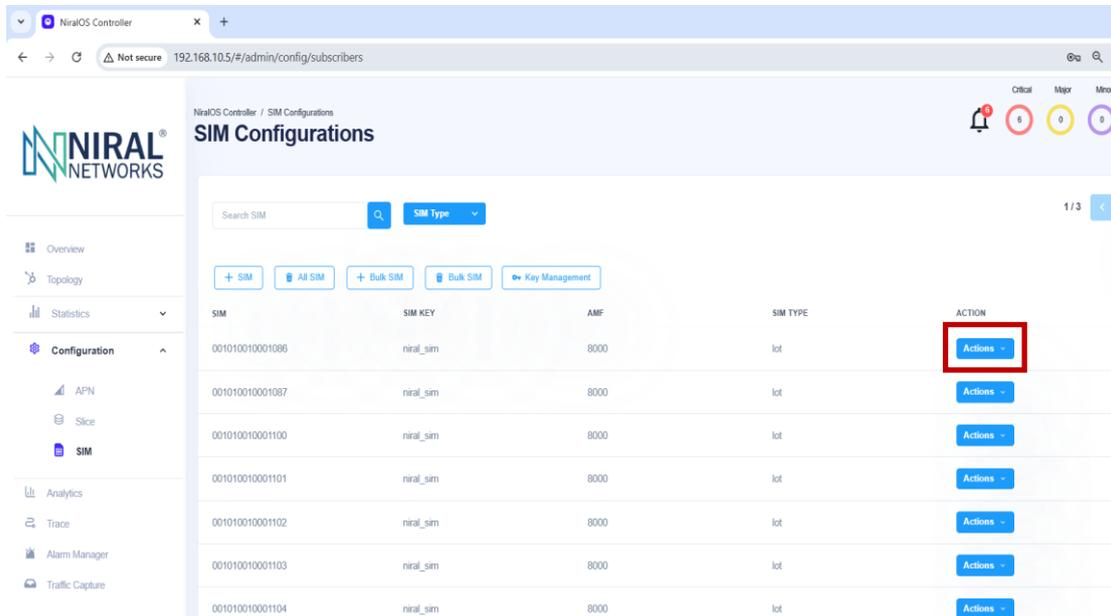

Figure 40 Sim configuration through NMS
2. From the left-hand side menu, navigate as follows: **Configuration** -> **Sim** (refer **Figure 40**)